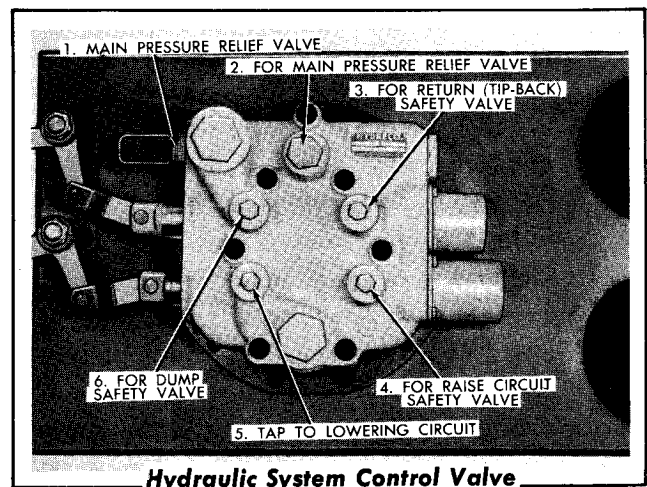

FIG. 77
3. Select circuit to be tested and remove proper pipe plug (Fig. 77) from control valve and install a 3000 P.S.I. capacity pressure gauge in its place.